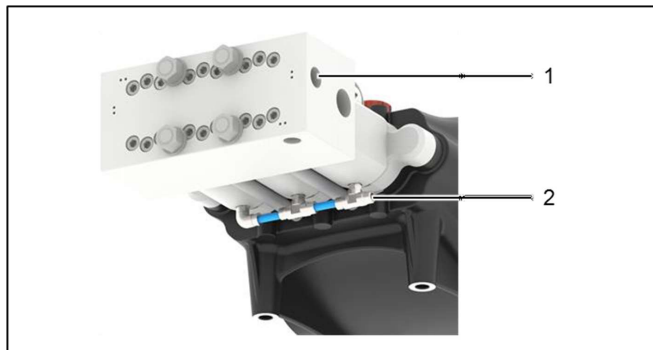

Figure 20: Emptying the pump
5. To empty the water from the header, remove the delivery plug (Figure 20): Position 1).
7. Disconnect all return lines (from the regulating valve, recirculation system (Figure 20: Position 2), etc.) and let the hoses/rigid hoses empty completely.
8. Refit the cap on the delivery connection (Figure 20): Position 1).
13. Install all return lines (of the control valve, the water recirculation system (Figure 20: Position 2) etc.) by fixing them in the appropriate places.